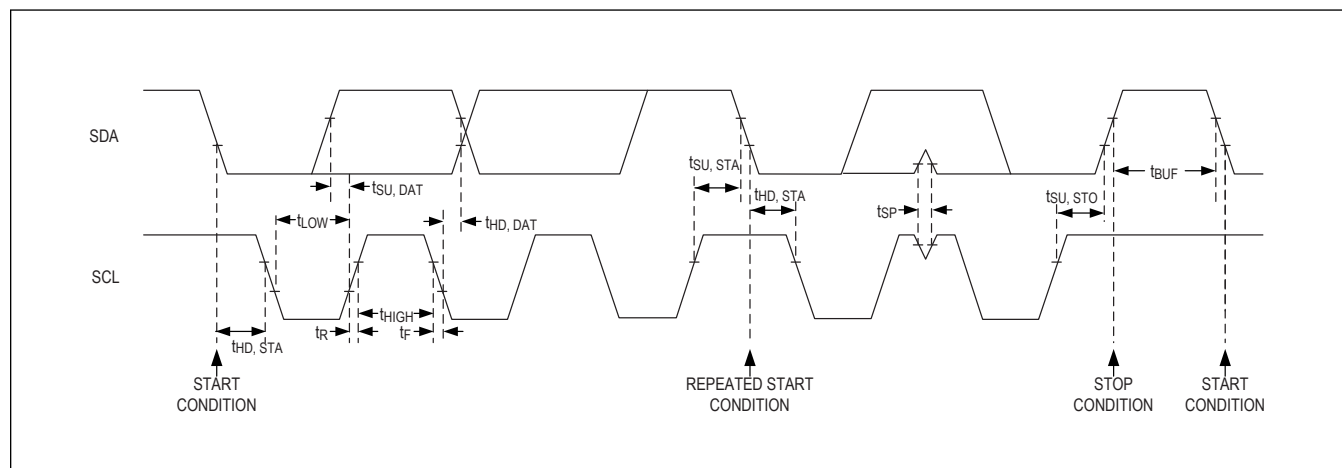

Figure 21. Detailed I²C Timing Diagram
The I²C interface on the MAX30009 is an I²C-/SMBus-compatible, two-wire serial interface consisting of an SDA and a SCL. In the I²C mode, the SDI/SDA pin operates as SDA and the SCLK/SCL pin operates as SCL. These two pins are used for the communication between the MAX30009 and the controller at clock rates up to 400kHz. Figure 21 shows the two-wire interface timing diagram. The controller generates SCL and initiates data transfer on the bus. The controller device writes data to the MAX30009 by transmitting the proper target address, followed by the register address, and then the data word. Each transmit sequence is framed by a START (S) or REPEATED START (Sr) condition, and a STOP (P) condition. Each word transmitted to the MAX30009 is 8-bits long and is followed by an acknowledge clock pulse. A controller reading data from the MAX30009 transmits the proper target address, followed by a series of nine SCL pulses. The MAX30009 transmits data on SDA in sync with the controller-generated SCL pulses. The controller acknowledges receipt of each byte of data. Each read sequence is framed by a START (S) or REPEATED START (Sr) condition, a not acknowledge (NACK), and a STOP (P) condition. SDA operates as both an input and open-drain output. A pullup resistor is required on SDA. SCL operates only as an input. A pullup resistor is required on SCL if there are multiple controllers on the bus, or if the single controller has an open-drain SCL output. Series resistors in line with SDA and SCL are optional. Series resistors protect the digital inputs from high-voltage spikes on the bus lines, and minimize crosstalk and undershoot of the bus signals.